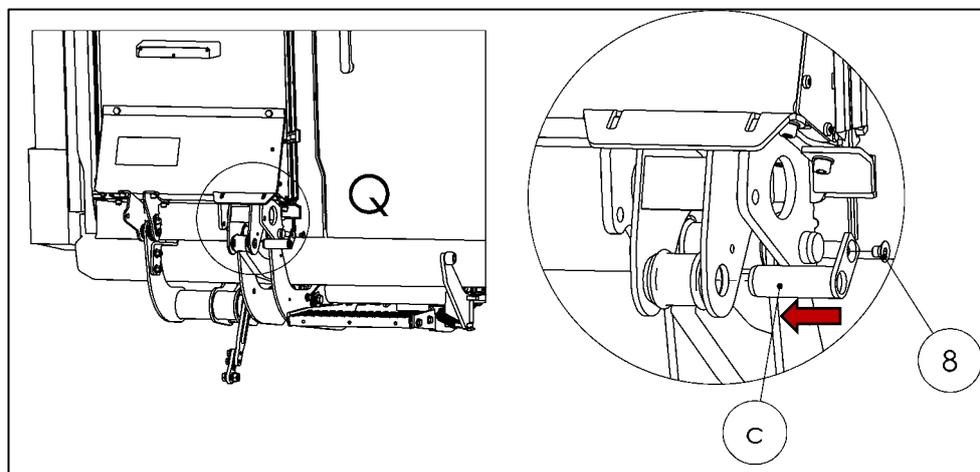

Figure 57
- Mount the screw (8) from the accessories kit to secure the pin (Fig. 57).